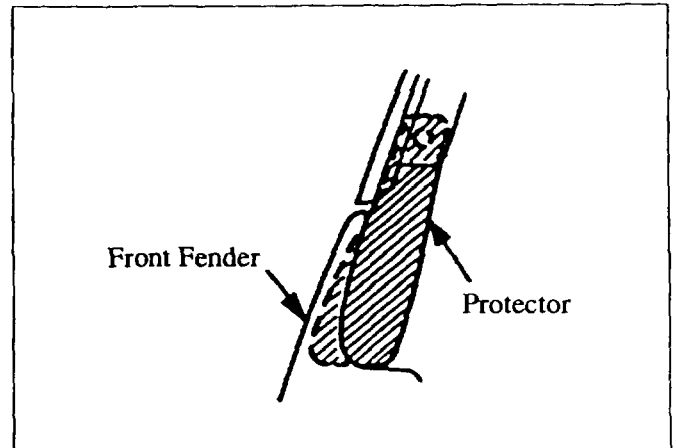

Figure 12: Base of "A" pillar
4. Reinstall the mounting screw and insert the protector inside the front fender cavity. **Figure 12.**